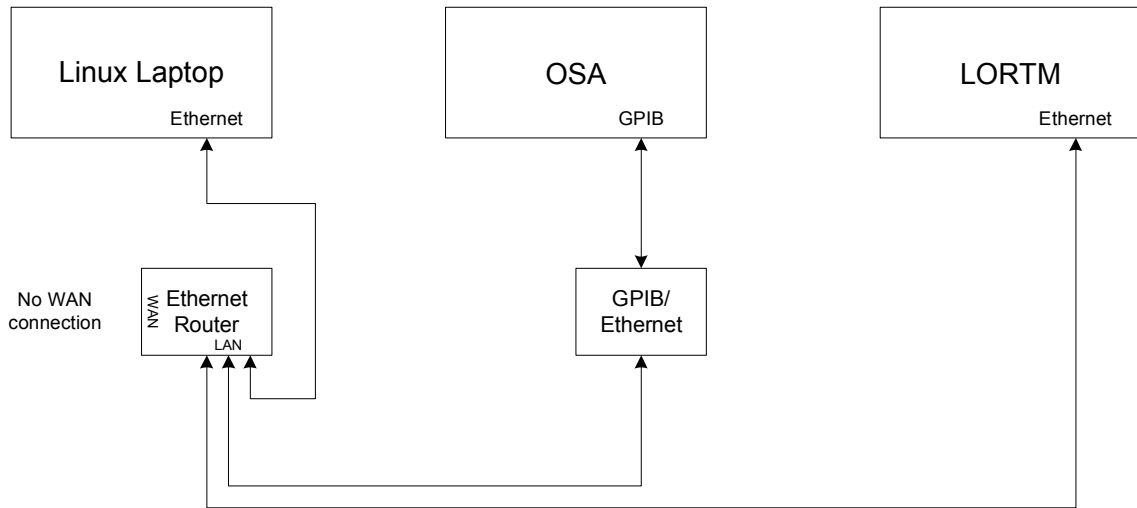

Figure 16 Network setup using the Optical Spectrum Analyzer (OSA)
- The OSA needs to be connected to the GPIB/ENET interface which in turn is connected to the linux laptop via an Ethernet cable (refer to Figure 16).